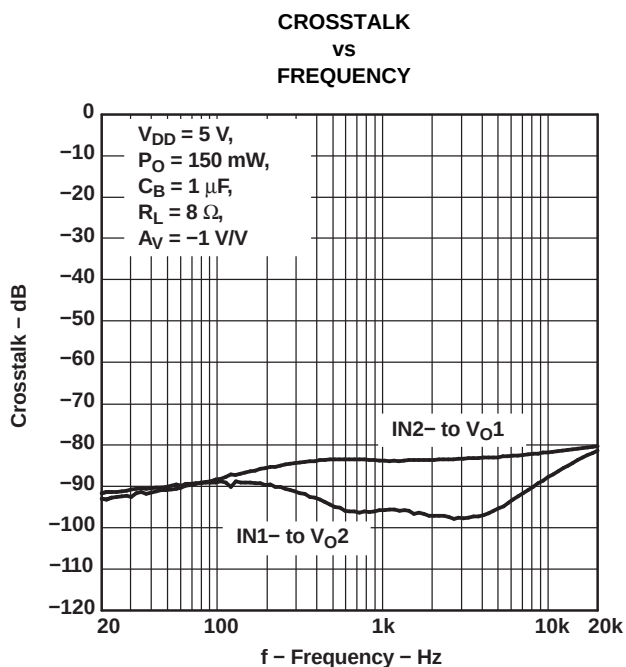
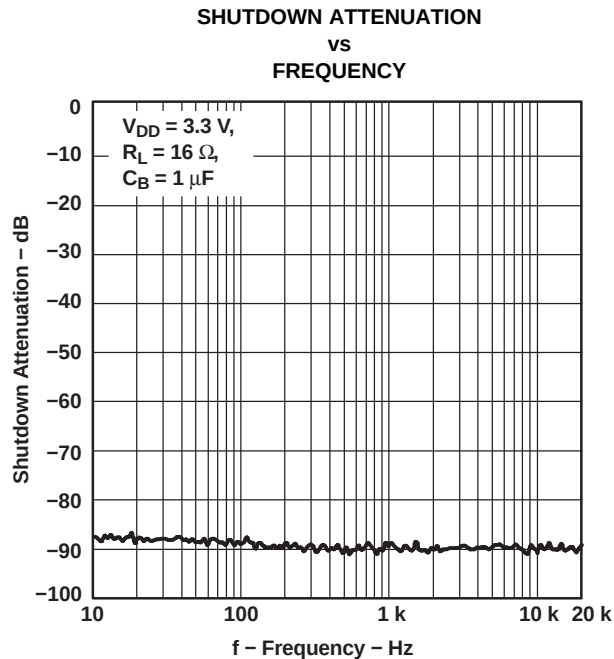

Figure 24.
Figure 25.
- Change the DC ELECTRICAL CHARACTERISTICS table From $T_A = 25^\circ\text{C}$, $V_{DD} = 3.3\text{ V}$ To: $T_A = 25^\circ\text{C}$, $V_{DD} = 2.5\text{ V}$, updated values 3 - Change the DC ELECTRICAL CHARACTERISTICS table From $T_A = 25^\circ\text{C}$, $V_{DD} = 5\text{ V}$ To: $T_A = 25^\circ\text{C}$, $V_{DD} = 5.5\text{ V}$, updated values 3 - Changed Figure 8, From: $R_L = 8\text{k}\Omega$ To: $R_L = 8\Omega$ 6 - Changed Figure 24, From: frequency limit at 1M To: frequency limit at 20K 10 - Changed Figure 25, From: frequency limit at 1M To: frequency limit at 20K 11